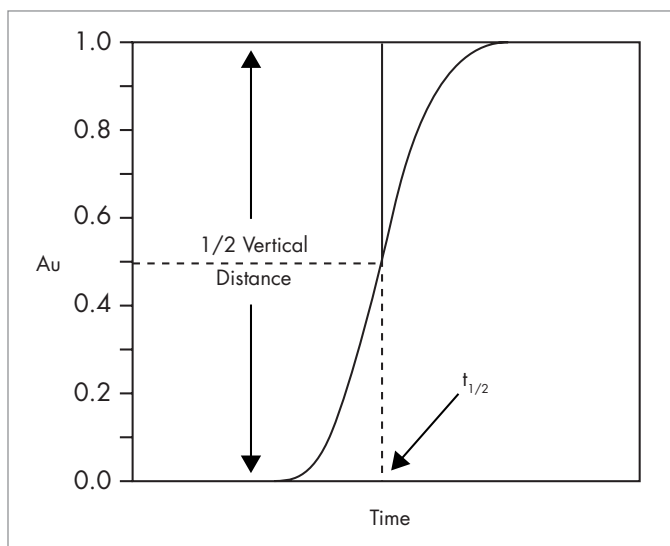

Figure 8: Determination of Gradient Delay Volume
6. Determine the dwell time by first locating the time at the midpoint of the formed gradient ( $t_{1/2}$ ) (half the vertical distance between the initial and final isocratic segments as shown in Figure 8).